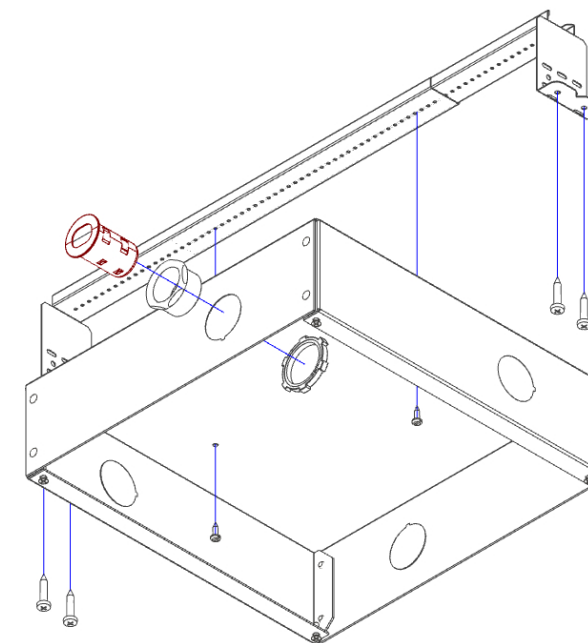

Figure 3 - Back Box Mounting
Step 4 – Attach box mounting bracket to studs and secure the back box to the bracket using self-tapping screws (Figure 3).
Step 5 – Once the assembly has been installed in the wall/ceiling or ceiling and secured using wall/ceiling bridges, run the Ethernet cable into the enclosure through the conduit connector located on the side of the access point enclosure and attach to the access point prior to installing. Clamp the firestop grommet around the cable far enough to allow attachment to the access point (8" - 10"). Insert the grommet into the conduit fitting (Figures 3 and 4)